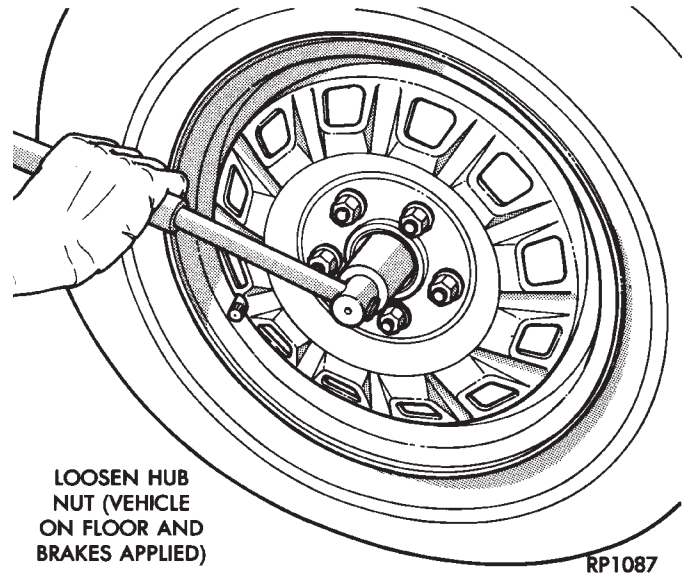
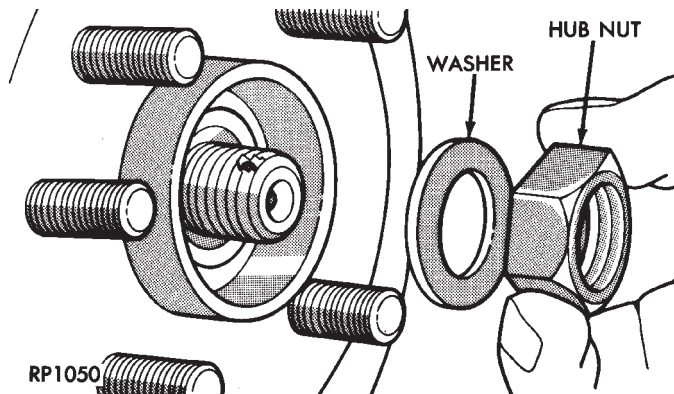

Fig. 2 Loosen Hub Retaining Nut & Wheel Nuts
Fig. 3 Remove Hub Nut & Washer
(2) Loosen front hub nut and wheel nuts while vehicles is on floor and brakes applied (Fig. 2).
(3) Raise vehicle, see Hoisting in Lubrication and Maintenance, Group 0.
(4) Remove front hub nut and washer (Fig. 3).
(5) Remove the front wheel and tire assembly from the vehicle.